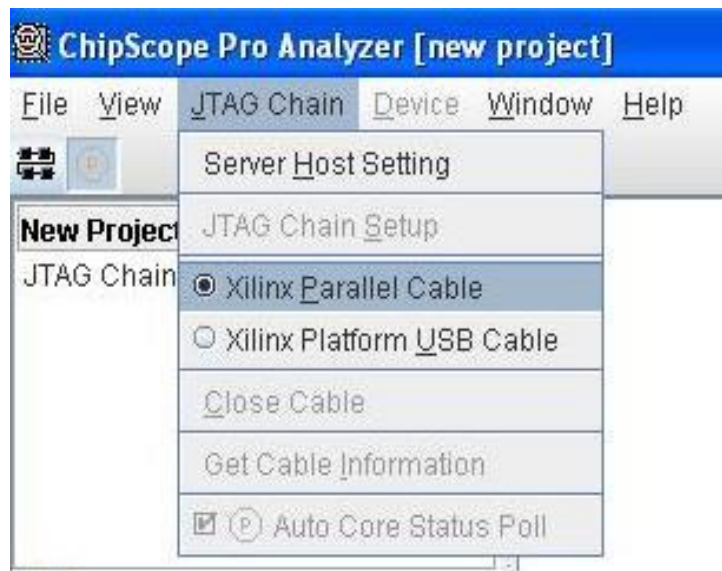

Fig 4.3: Opening of Parallel Cable
2. Select the **JTAG Chain** and Click on **Xilinx Parallel Cable** as shown in Fig 4.3. This pops out with a dialogue box for the selection of **Parallel Cable Selection** and its parameters like **Speed** and **Port**.